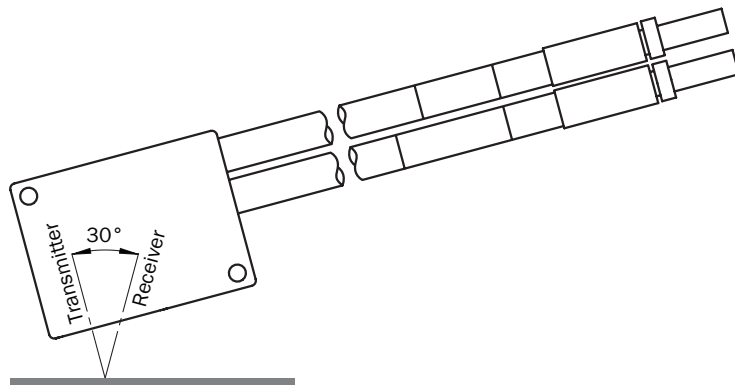
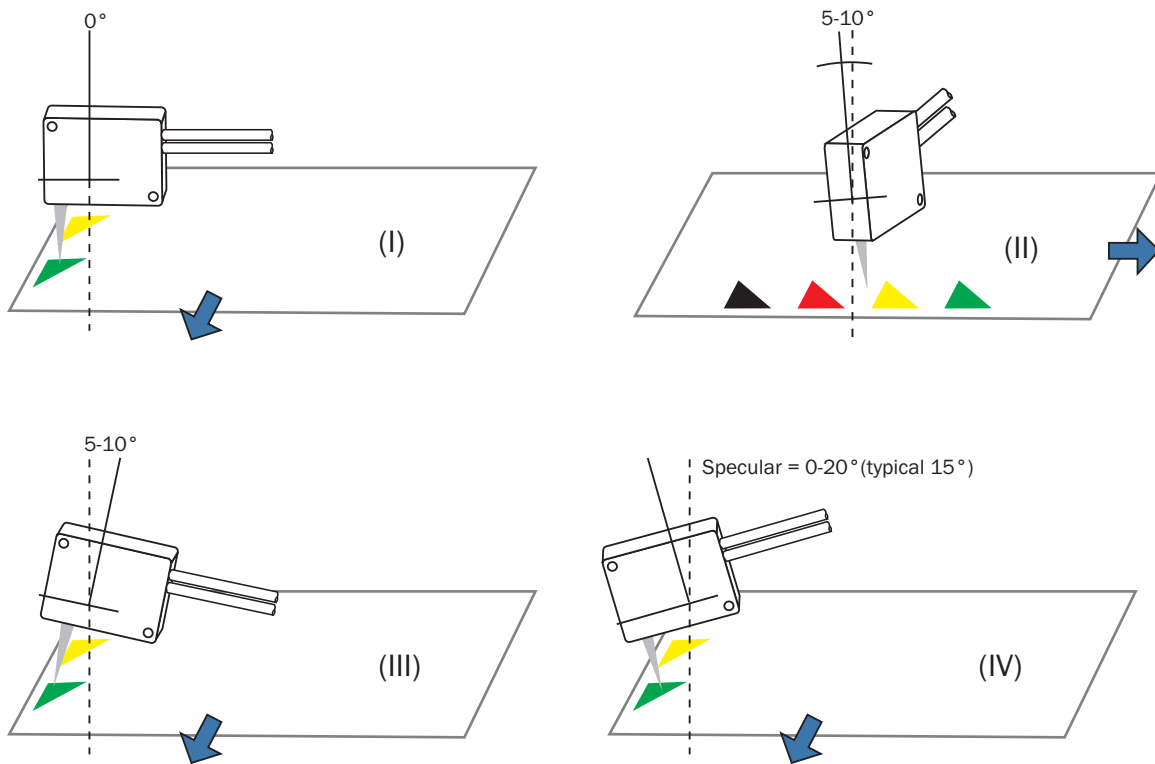

Fig. 9: Optical sensor head tilted longitudinally, assembly version at glossy marks and a glossy background
Fig. 10: Optical sensor head tilted in the lateral axis, assembly version at glossy marks
- In the case of high-gloss backgrounds, maintain a tilt angle of 5 to 15° for the optical sensor head. → See the Page 23, Fig. 9 and Page 24, Fig. 10.
The optical sensor head is tilted around its lateral axis by 5 to 10° (Fig. 10 (II)). The reflected light does not reach the receiver. Almost all the light is reflected into the reflective direction at a glossy mark. The reflective reflections are hardly detected by the receiver. Only the diffuse part of the matte background is detected by the receiver. Only a small part of the light from the diffuse background reaches the receiver as compared to the placement in figure Fig. 9.